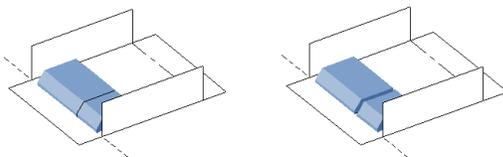

Figure 13-5
2. Choose and insert one or more of the short clamp bars as shown in (fig. 13-5) below for the opposite bends. (This method allows for deep depth boxes.)